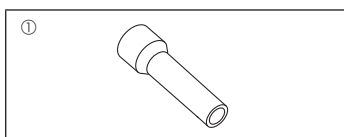

Fig. 1-1
1.6. Accessories of outdoor unit (Fig. 1-1) (ZRP200/250, P200/250)